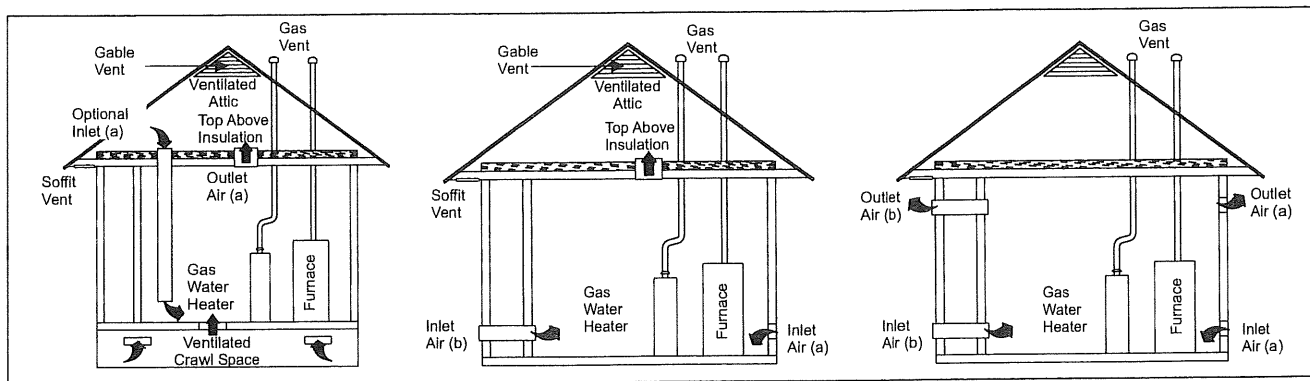

FIGURE 39: Outside and Ambient Combustion Air
3. **VENTILATED COMBUSTION AIR:** Combustion air is supplied through a PVC or ABS pipe that is connected to the PVC coupling attached to the burner box and is terminated in a ventilated attic or crawl space. The combustion air and the vent pipes are not terminated in the same atmospheric zone. Refer to Figure 39 for attic and crawl space termination. Only the combustion air intake may terminate in the attic. The vent must terminate outside.
Refer to Figure 39 for required attic termination for the combustion air intake pipe. For attic termination, use two 90 elbows with the open end in a downward position. Be sure to maintain 12" (30.5 cm) clearance above any insulation, flooring or other material.